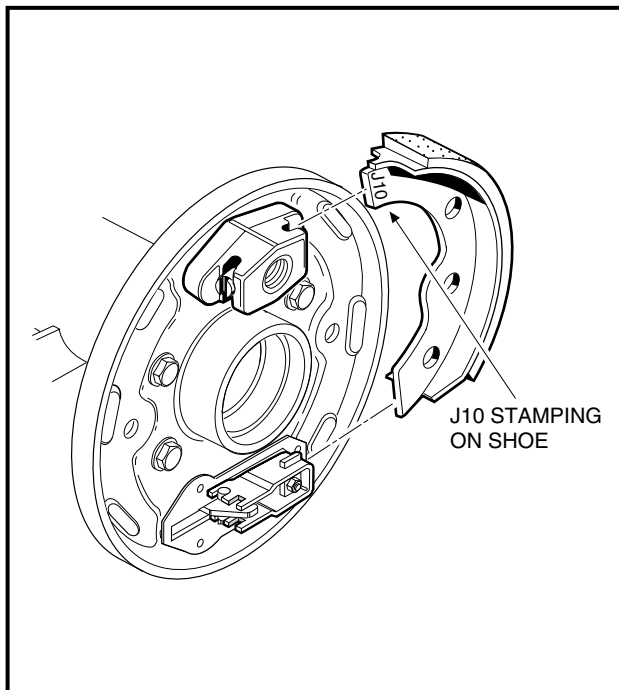

Figure 6-23 Position Shoes
1. Position one shoe in the slots in the mounting block anchor piston and brake actuator (**Figure 6-23, Page 6-12**). See following **WARNING**.
- When installing brake shoes, the shoes must be oriented with tips stamped J10 inserted into the mounting block anchor piston slots rather than into the brake actuator slots (**Figure 6-23, Page 6-12**). Incorrectly installed brake shoes will be too tight and make adjustment of the brake impossible.